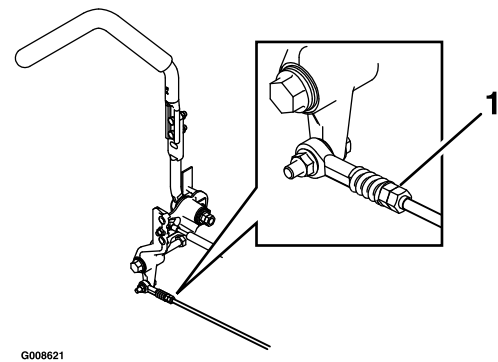

Figure 32
7. Bring the motion control levers into the neutral position. Adjust pump control rod lengths by rotating the double nuts on the rod in the appropriate direction until the wheels slightly creep in reverse (Figure 32). Move the motion control levers to the reverse position and while applying slight pressure to the lever allow the reverse indicator springs to bring the levers back to neutral. The wheels must stop turning or slightly creep in reverse.